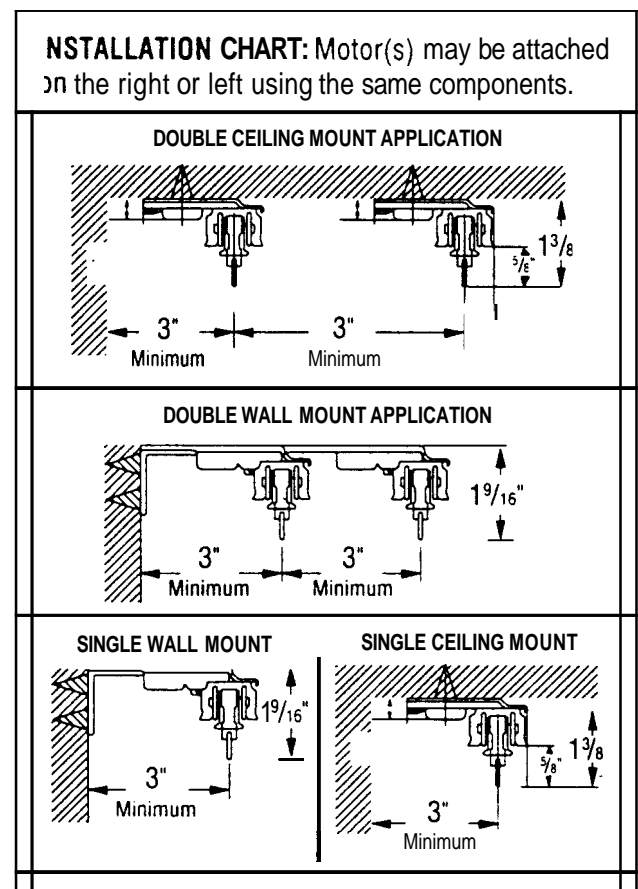

Fig. 24
2. Position rod in desired location and mark bracket mounting holes on wall or ceiling depending on your specific application. (See Fig. 24 for bracket mounting dimensions.) It is important for proper operation to mount the rod straight and level. Many times walls and ceiling will not be straight or true. Wall mount brackets have the ability to adjust for this. Once the rod is up, loosen the screw that attaches the ceiling clip to the wall bracket. This will allow the rod to relax to its natural straight shape. Retighten the screws. In the case of ceiling mount, it may be necessary to place shims between the bracket and ceiling in order to make the rod straight and level.